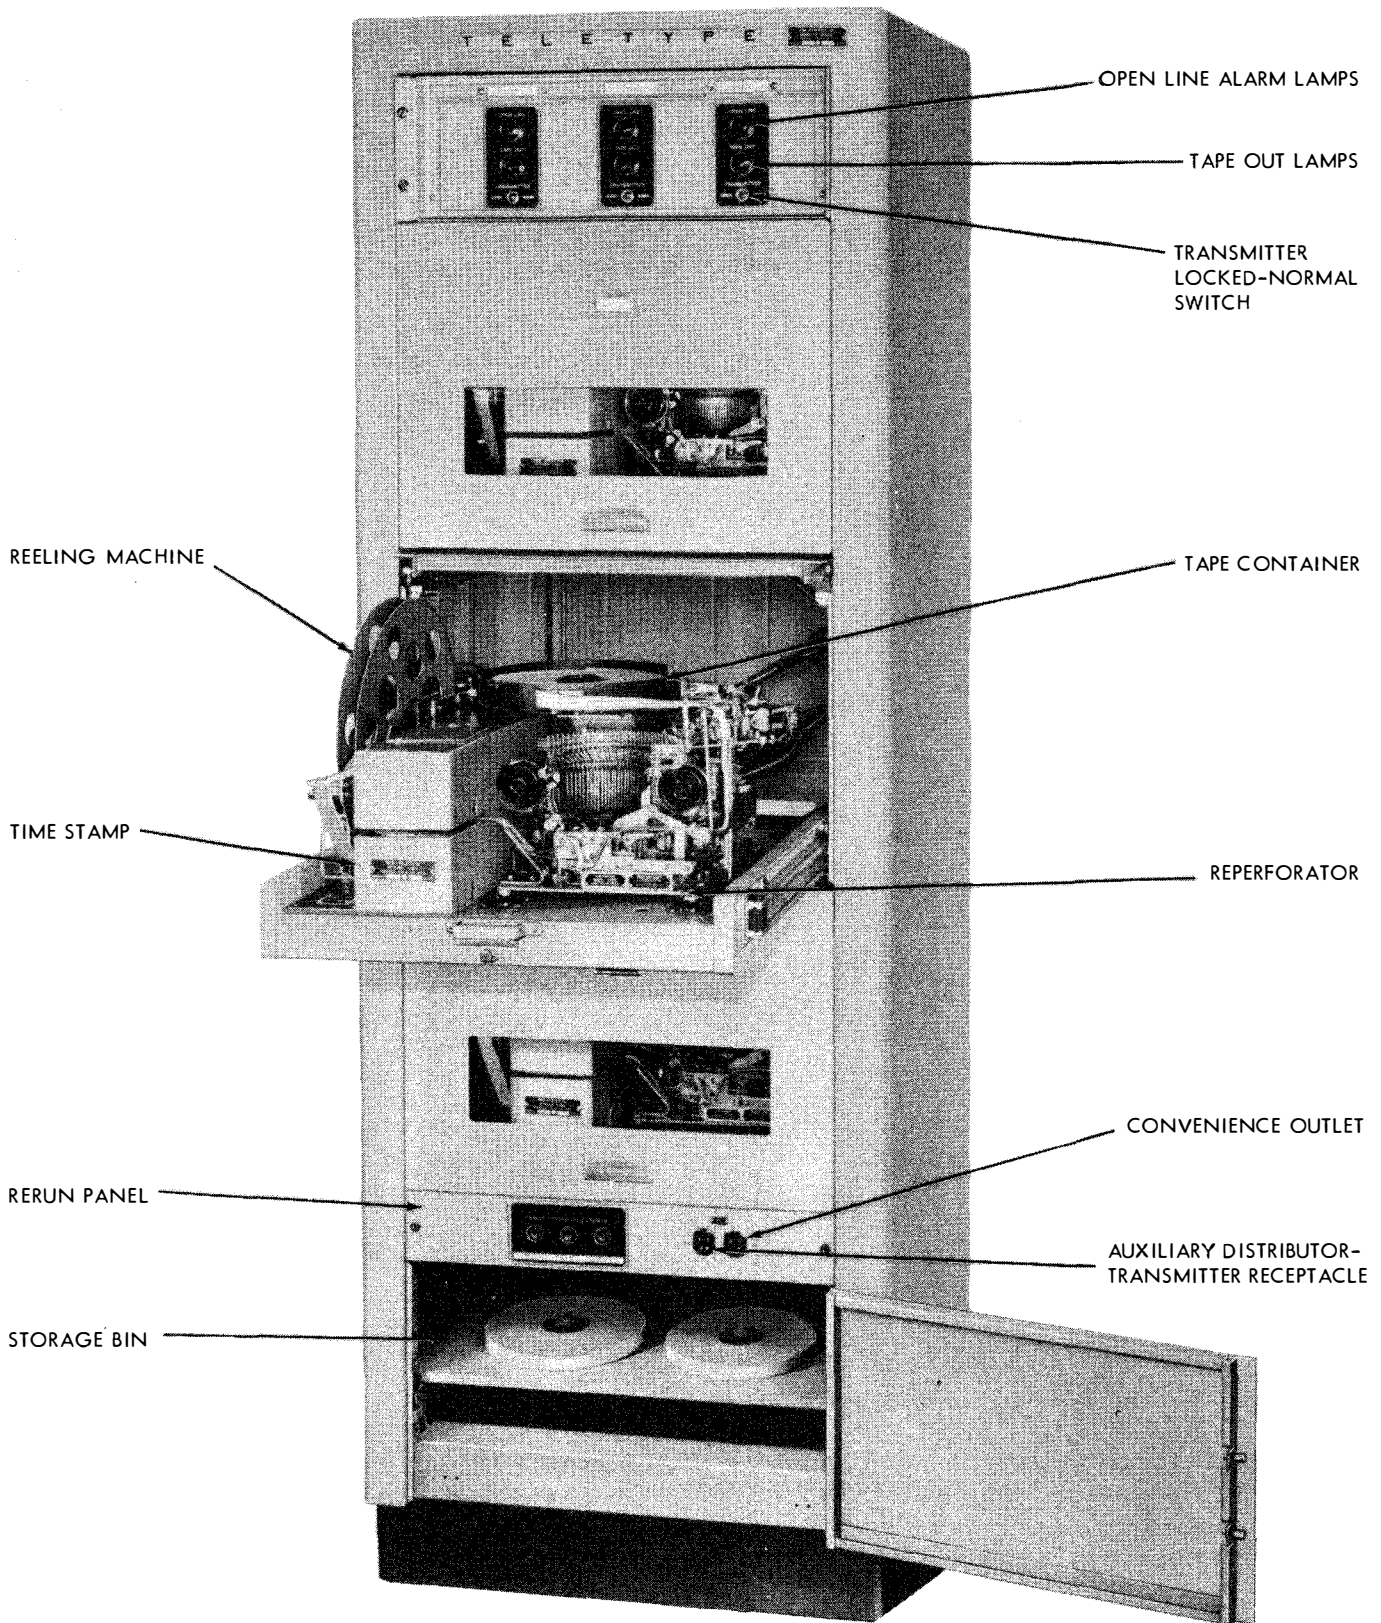

Figure 4-4. Monitor Group OA-617/FGC-38, OA-620/FGC-38X, or OA-623/FGC-39, Front View
d. MONITOR GROUP OA-617/FGC-38, OA-620/FGC-38X, OR OA-623/FGC-39.—The monitor group is composed basically of three reperforators, three time stamps, and three tape reeling machines. (See figure 4-4.) The reperforator, time stamp, and tape reeling machine on each level of the cabinet are associated with the message and numbering distributor-transmitters of a particular outgoing line.